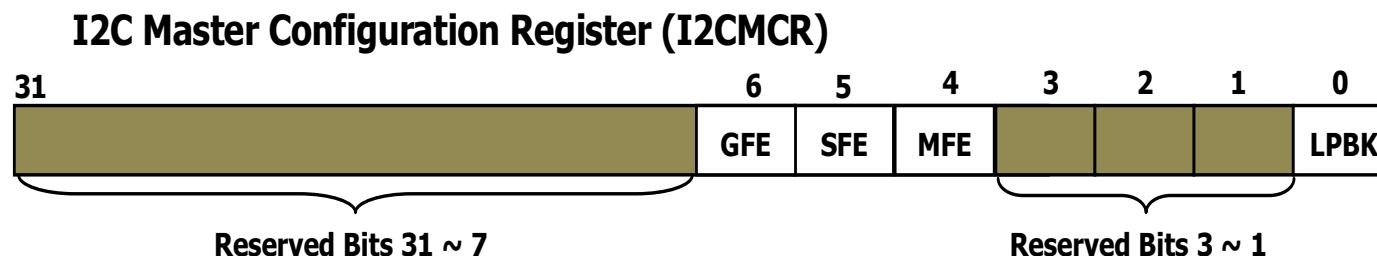

Figure 8.53 The bit configurations for the I2CMCR register.
- This **32-bit** register is used to configure the operational mode (**Master** or **Slave**) for the I2C modules, enable the glitch filter, and set the interface for test mode loopback. Figure 8.53 shows the bit configurations for this register.